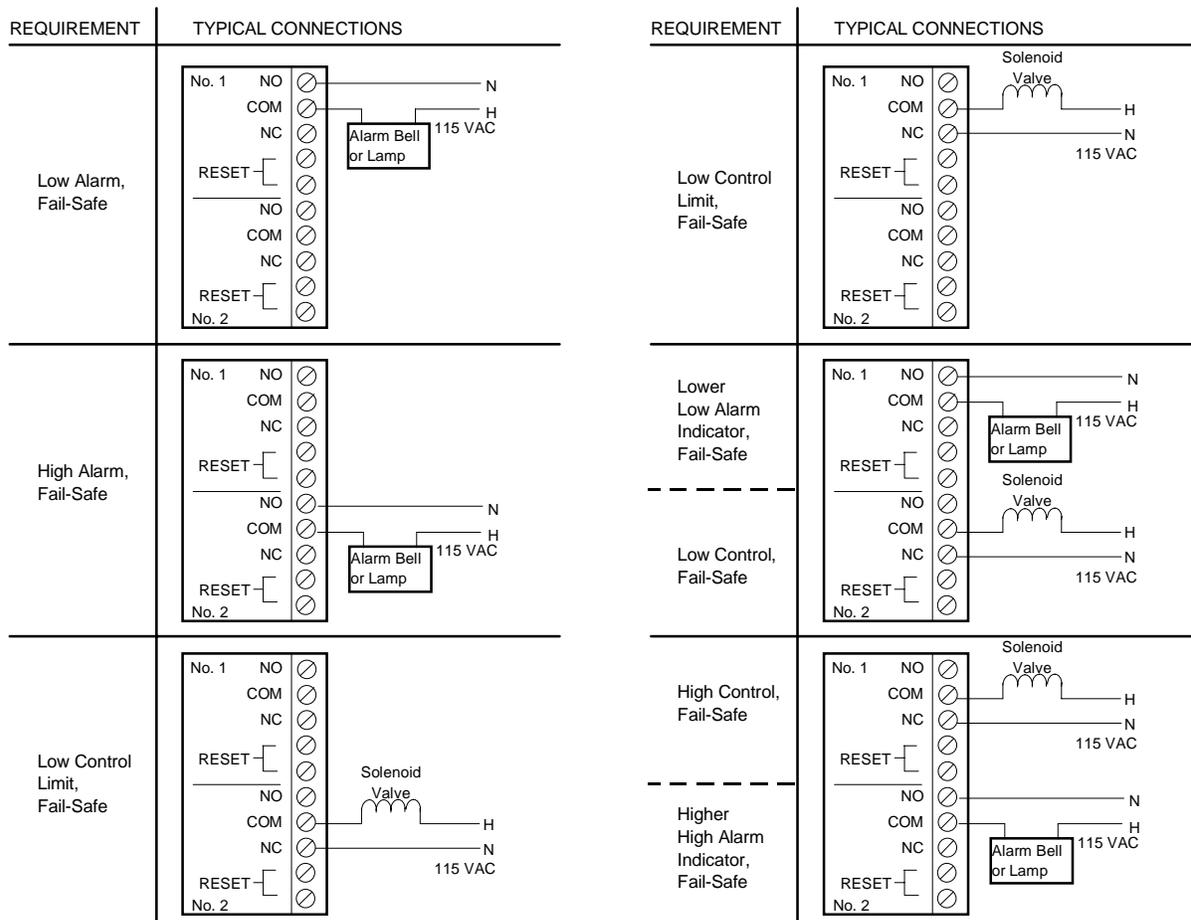

FIGURE 2-5. RELAY TERMINAL CONNECTIONS FOR TYPICAL FAIL-SAFE APPLICATIONS
The alarm output provides two sets of relay contacts for actuation of alarm and/or process-control functions. Leads from the customer-supplied external alarm system connect to terminals on the 654019 Alarm Assembly (See Figure 2-5 and Interconnect Drawing 654014).
important, for fail-safe applications, that the user understands what circuit conditions are desired in event of power failure and the resultant relay de-energization. Relay contacts should then be connected accordingly (See Figure 2-5).
- c. Set ALARM 2 Calibrate Adjustment (R67) to its clockwise limit. Carefully rotate R67 counterclockwise the minimum amount required to obtain energization of ALARM 2 Relay K2 (See Figure 2-5).